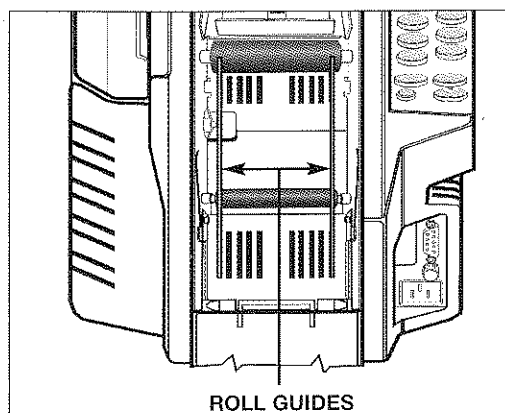

FIGURE 2 - Removing the Guides from the Slots
1. Remove a guide from its current position by grasping the guide, lifting it up and pulling the bottom of it to the rear of the unit. *See Figure 2.*